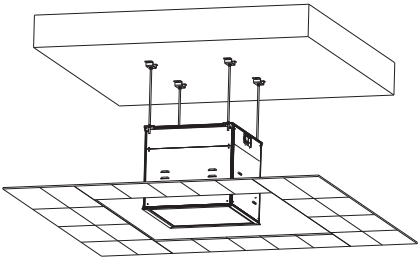

figure 6
4. Figure 6, install the projector lift and fasten. The low frame of projector must align to ceiling.